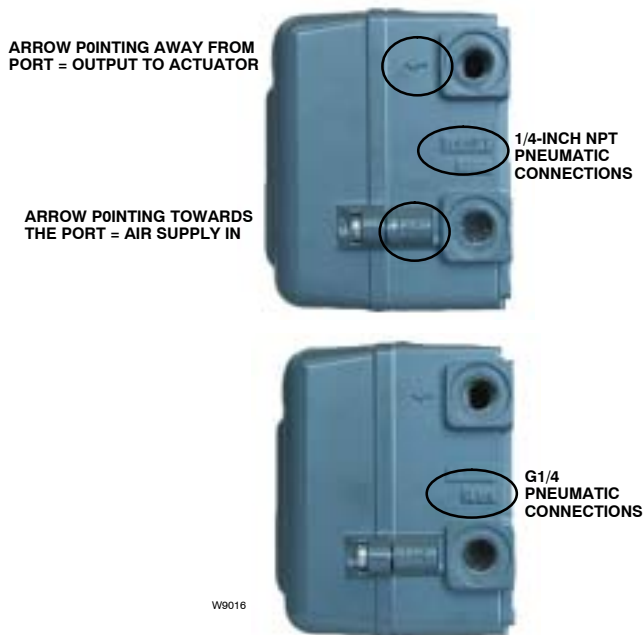

Figure 2-7. Conduit and Pneumatic Thread Variations
8. Install tubing between the actuator casing and the pneumatic positioner output connection that has the arrow pointing away from the opening. See figure 2-7.
5. Install tubing between the actuator casing and the pneumatic positioner output connection that has the arrow pointing away from the opening. See figure 2-7.
Connect the nearest suitable supply source to the connection with the arrow pointing towards the opening (see figure 2-7).